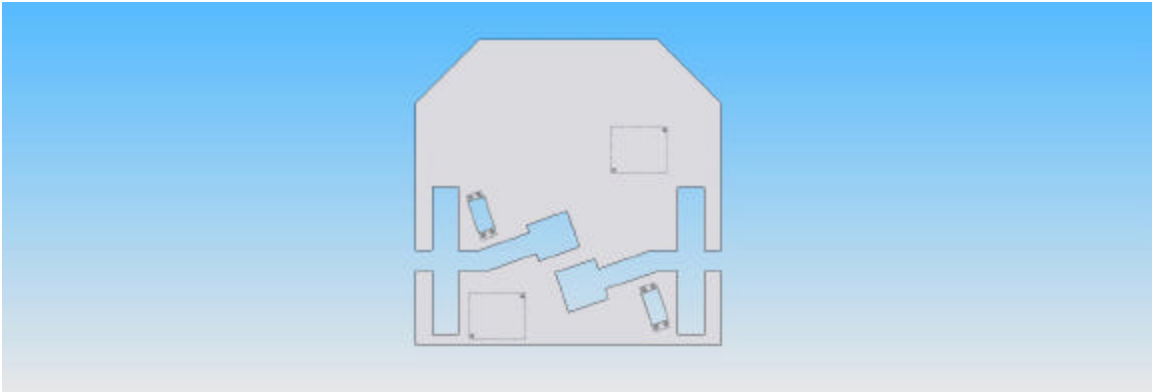

Fig 12.1
- Aluminum Chassis: \$10 (Fig 12.1)